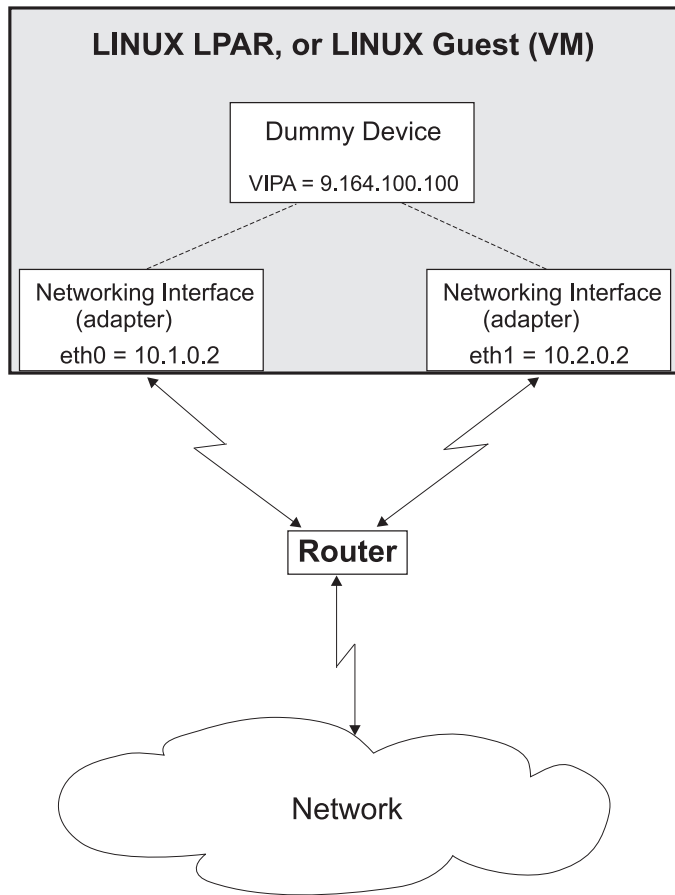

Figure 7. Example of using Virtual IP Address (VIPA)
- Static routing (shown in the example of Figure 7 on page 154).
Figure 7 on page 154 shows the network adapter configuration used in the example.